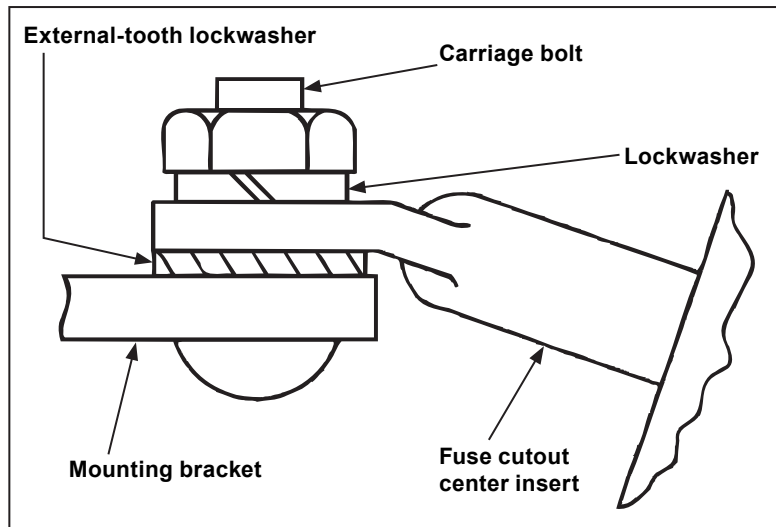

Figure 1. Detail of attachment of fuse cutout to mounting bracket.
**Step 1** Attach the fuse cutout to a suitable mounting bracket as illustrated in Figure 1. NOTE: A mounting bracket, suitable for cross-arm, pole, or wall mounting, is furnished only if so specified on order by adding suffix “-B” or “-C” to catalog number of fuse cutout.
**Step 2** Mount the fuse cutout on the mounting bracket, as shown in Figure 1, with the carriage bolt nut snug but loose enough for pivot adjustment. Note the placement of the external-tooth lockwasher between the fuse cutout center insert and the mounting bracket. See Figure 1.